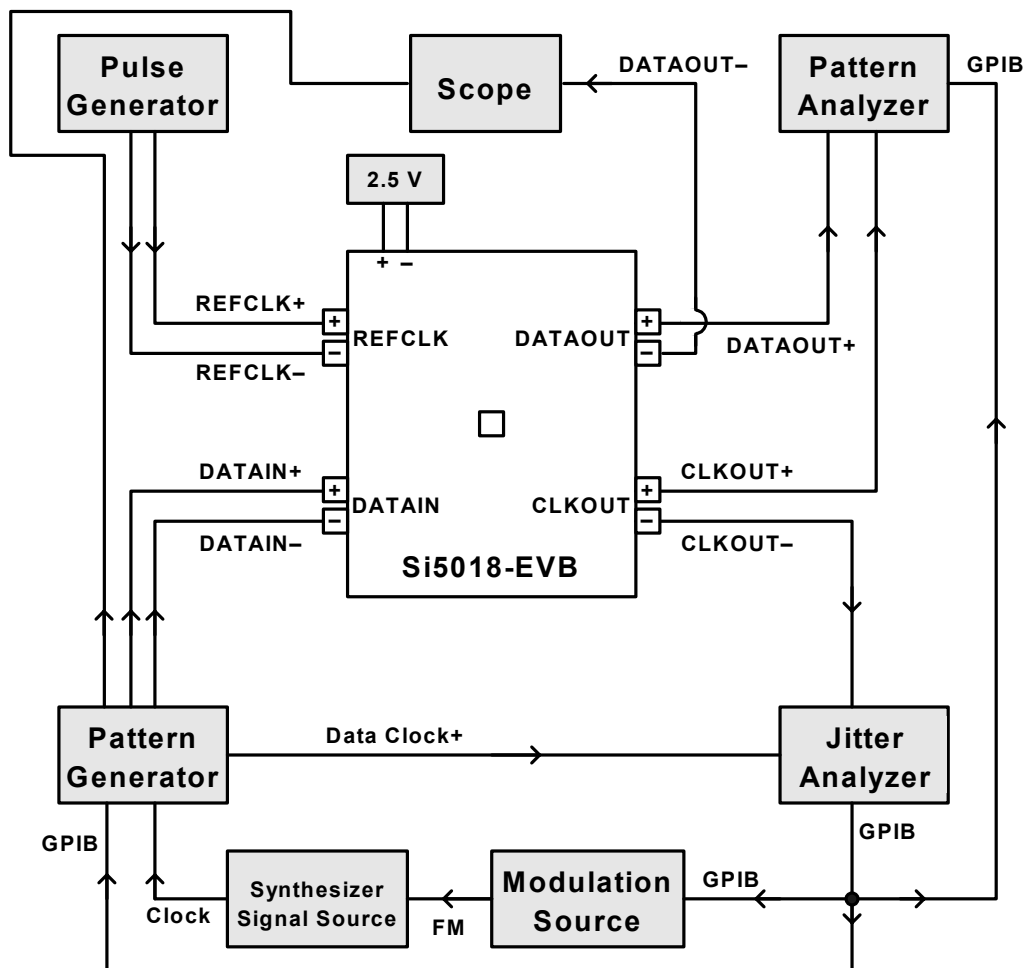

Figure 1. Test Configuration for Jitter Tolerance, Transfer, and Generation
The three critical tests that are typically performed on a CDR device are jitter transfer, jitter tolerance, and jitter generation. By connecting the Si5018 Evaluation Board as shown in Figure 1, all three measurements can be easily made.
**Jitter Tolerance:** Referring to Figure 1, this test requires a pattern generator, a clock source (synthesizer signal source), a modulation source, a jitter analyzer, a pattern analyzer, and a pulse generator (all unconnected high-speed outputs must be terminated to 50  $\Omega$ ). During this test the Jitter Analyzer causes a modulation on the data pattern which drives the DATAIN ports of the CDR. The Bit-Error-Rate (BER) is monitored on the Pattern Analyzer. The modulation (jitter) frequency and amplitude is recorded when the BER approaches a specified threshold.
**Jitter Generation:** Referring to Figure 1, this test requires a pattern generator, a clock source (synthesizer signal source), a jitter analyzer, and a pulse generator (all unconnected high-speed outputs must be terminated to 50  $\Omega$ ). During this test there is no modulation of the Data Clock, so the data that is sent to
**Jitter Transfer:** Referring to Figure 1, this test requires a pattern generator, a clock source (synthesizer signal source), a modulation source, a jitter analyzer, and a pulse generator (all unconnected high-speed outputs must be terminated to 50  $\Omega$ ). During this test the Jitter Analyzer modulates the data pattern and data clock reference. The modulated data clock reference is compared with the CLKOUT of the CDR. Jitter on CLKOUT relative to the jitter on the data clock reference is plotted versus modulation frequency at predefined jitter amplitudes.